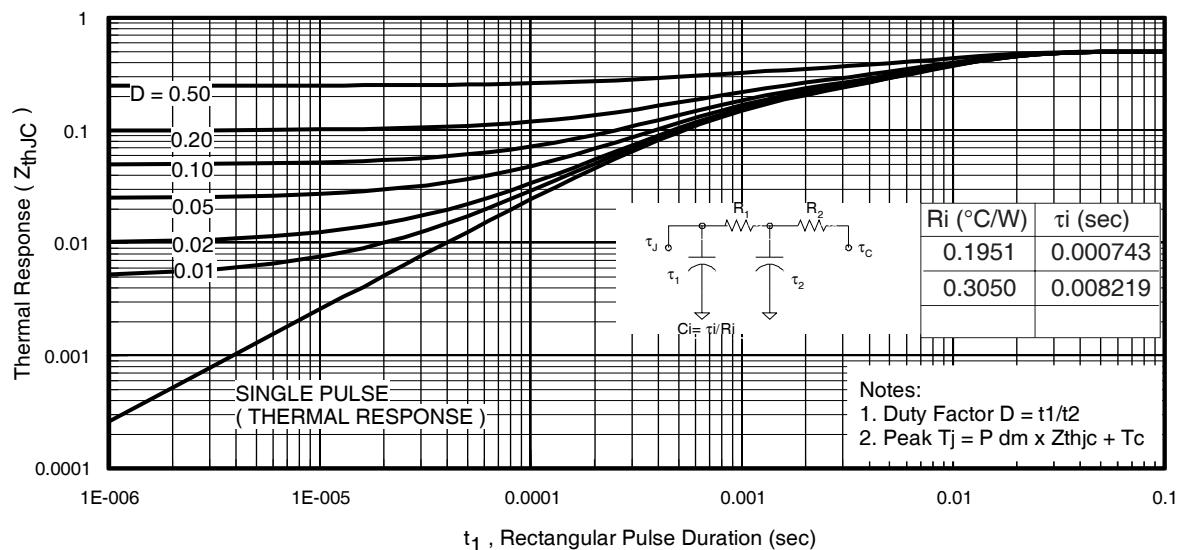
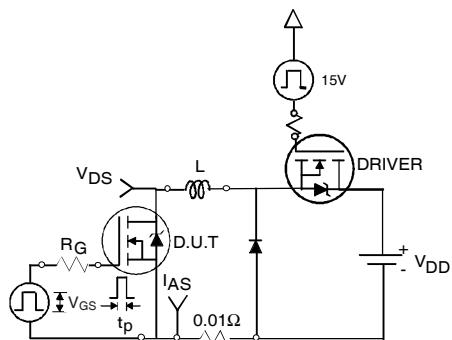

Fig 11. Maximum Effective Transient Thermal Impedance, Junction-to-Case
Fig 12a. Unclamped Inductive Test Circuit
- ① Repetitive rating; pulse width limited by max. junction temperature. (See fig. 11).
- ② Limited by $T_{J\text{max}}$, starting $T_J = 25^\circ\text{C}$, $L=0.049\text{mH}$, $R_G = 25\Omega$, $I_{AS} = 160\text{A}$, $V_{GS} = 10V$. Part not recommended for use above this value.
- ③ Pulse width $\leq 1.0\text{ms}$; duty cycle $\leq 2\%$.
- ④ $C_{oss \text{ eff.}}$ is a fixed capacitance that gives the same charging time as C_{oss} while V_{DS} is rising from 0 to 80% V_{DSS} .
- ⑤ Limited by $T_{J\text{max}}$, see Fig.12a, 12b, 15, 16 for typical repetitive avalanche performance.
- ⑥ This value determined from sample failure population. 100% tested to this value in production.
- ⑦ This is applied to D²Pak, when mounted on 1" square PCB (FR-4 or G-10 Material). For recommended footprint and soldering techniques refer to application note #AN-994.
- ⑧ R_θ is measured at T_J of approximately 90°C .
3. Equation below based on circuit and waveforms shown in Figures 12a, 12b.
- $Z_{thJC}(D, t_{av})$ = Transient thermal resistance, see figure 11)